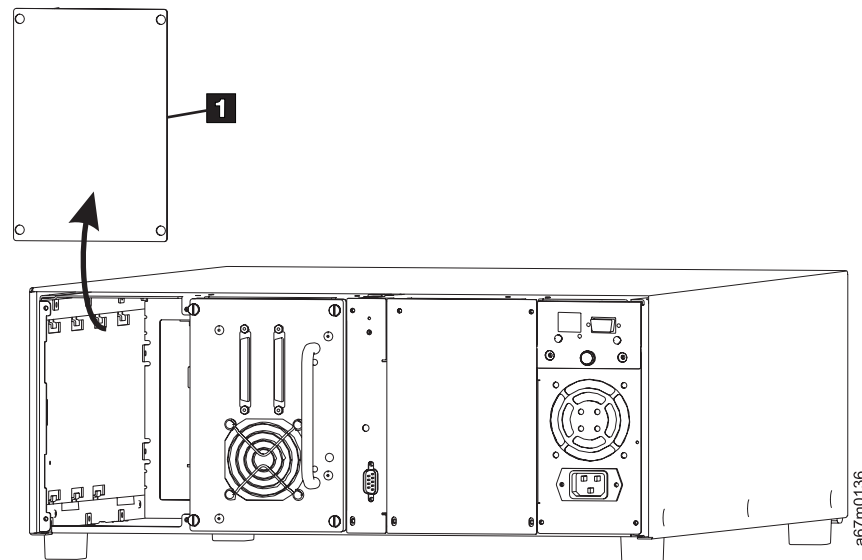
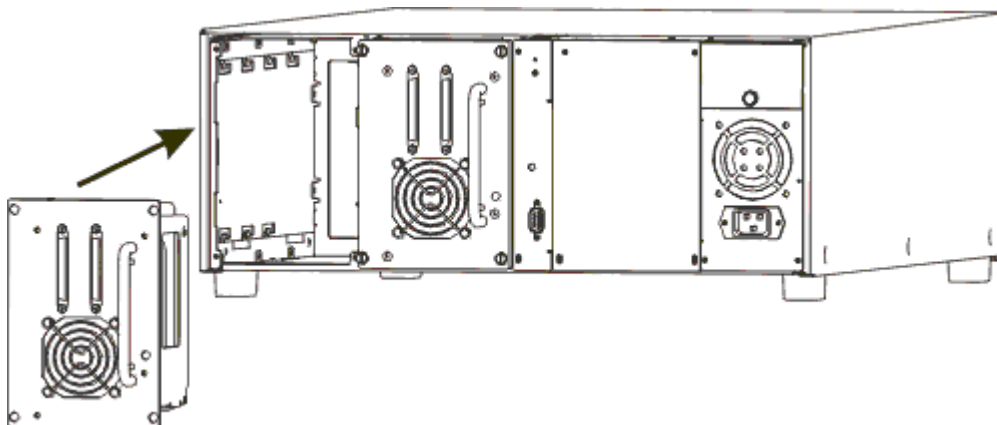

Figure 39. Drive module cover plate removal
Figure 40. Drive module installation
Note: This procedure applies for both SCSI and Fibre Channel drives. SCSI drives are shown in Figure 39 and Figure 40 on page 60.
3. From the rear of the library, locate the available drive slot. Loosen the four thumbscrews on the cover plate and remove the cover plate. Store the cover plate (see **1** in Figure 39) in a convenient place; it is required for proper operation and cooling of the library if you remove the optional drive.